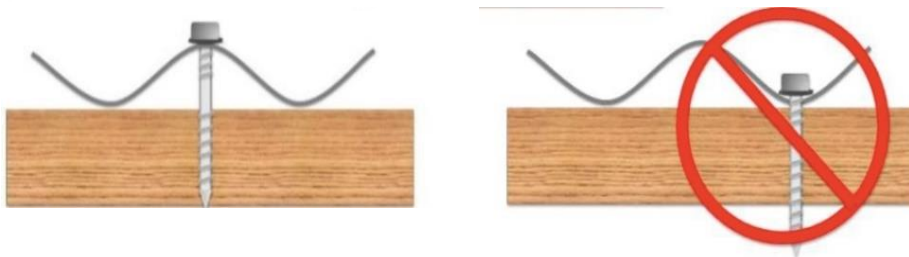

Figure 2
- Tilt the panel 10-15 degrees to allow rainwater to flow off the panel and to maximize sun exposure (see figure 2).
2. Drill four holes in the back of the Solar Suitcase *outside of where the main control board will be reattached* (Fig.2).